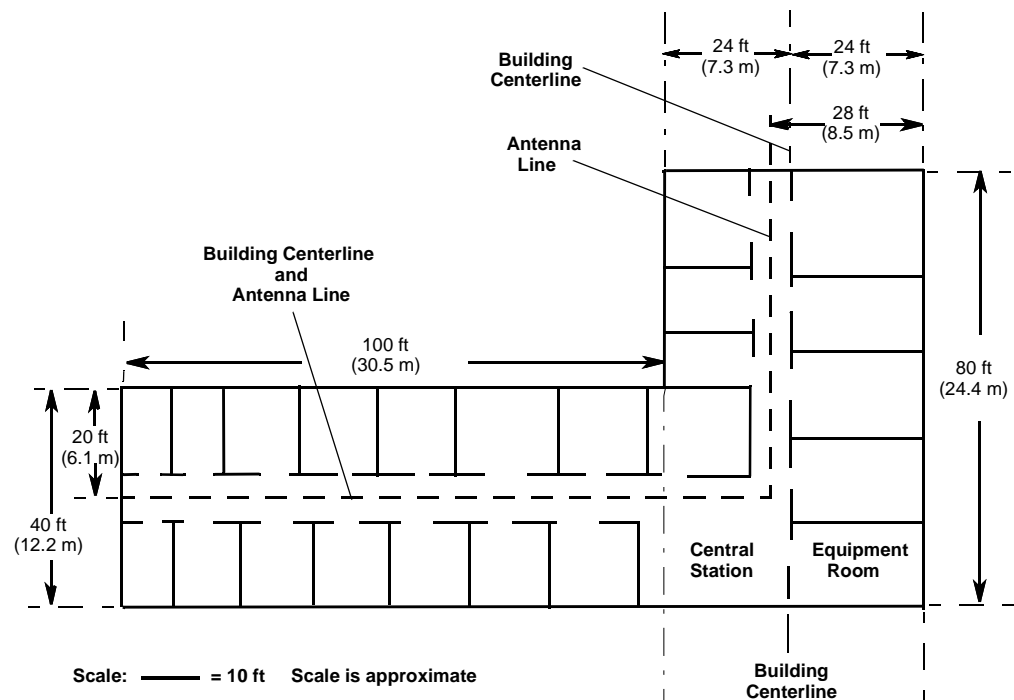

Figure 9-3 Outlining and Marking the Coverage Area
- Divide the width of the area by two and draw the centerlines as shown in Figure 9-3.
- The antenna line and the building centerline may be the same or the two lines may run parallel to each other, as shown in Figure 9-3.